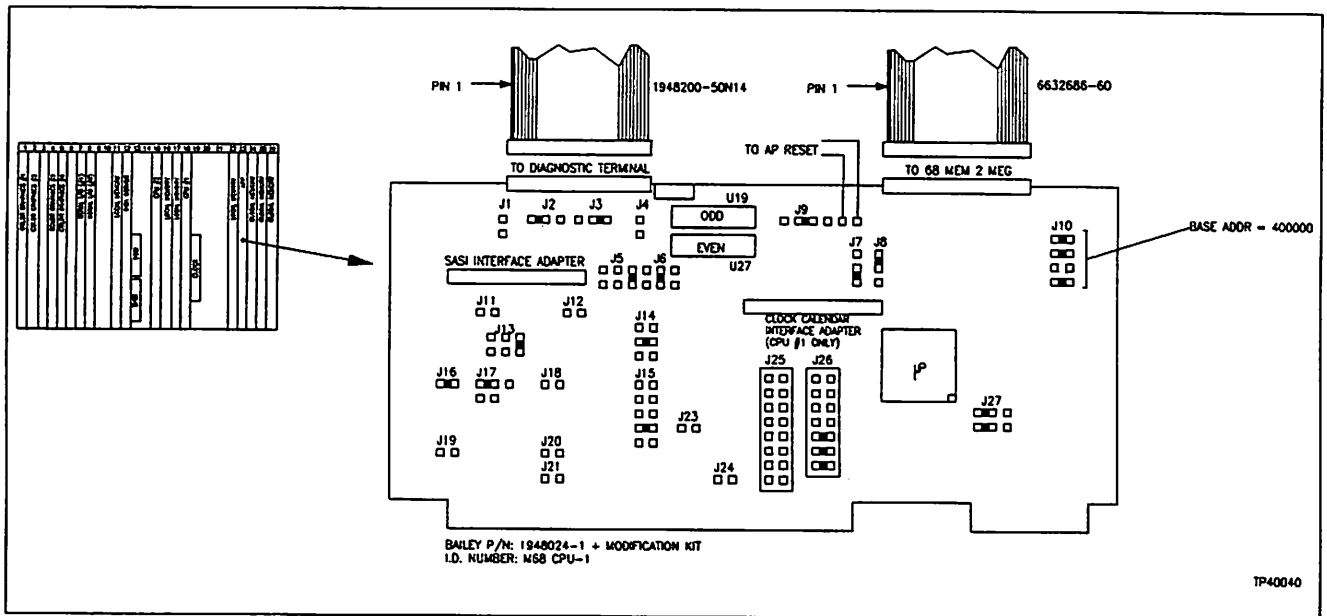

Figure 4-2. Application Processor
The Application Processor provides custom programming. Supported languages are C, Fortran, and 68000 assembly. Refer to Bailey Product Instruction E93-901-25 for further information. A maximum of two application processors can be added. The jumper settings and locations of these processor cards are shown in Figure 4-2.
2. Install jumpers from kit on locations as specified in Figure 4-2.